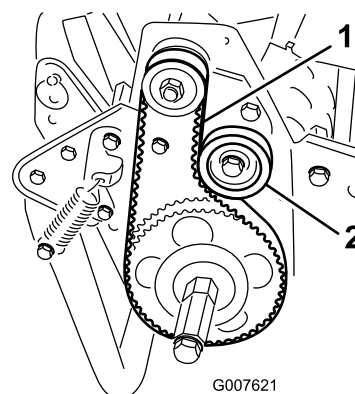

Figure 38
2. Check the tension by pressing the belt at mid span of the pulleys (Figure 38) with 18 to 22 N (4 to 5 lb) of force. The belt should deflect 6 mm (1/4 inch).
- A. Loosen the idler pulley mounting nut and pivot the idler pulley clockwise against the backside of the belt until the desired belt tension is attained (Figure 38).